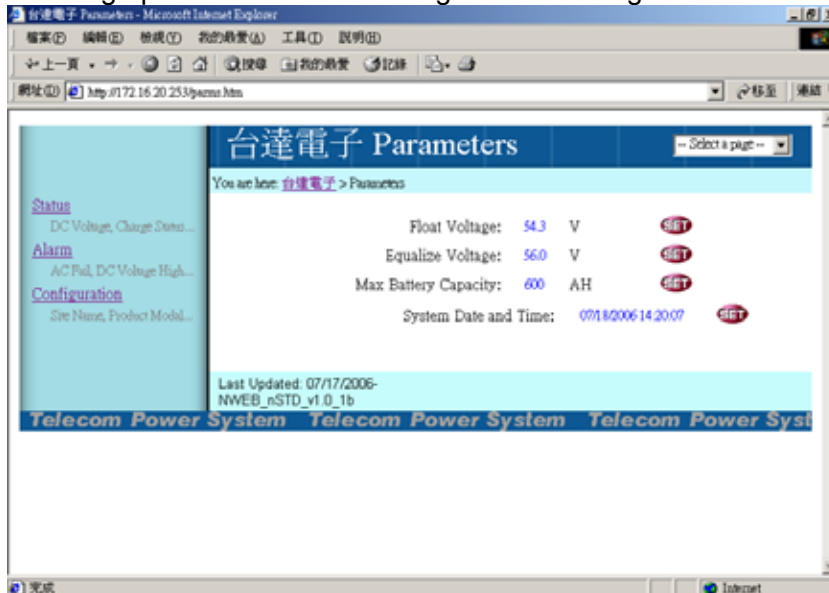

Fig8. Show value about parameter and click on “SET” icon to change its data.
- (b) This page, Fig8, displays alarm parameter setting value and allow user with password to change parameters after clicking on “SET” image.
The operating condition of SMR can fully display by the LED on front panel. (Refer to the FIG. 8)